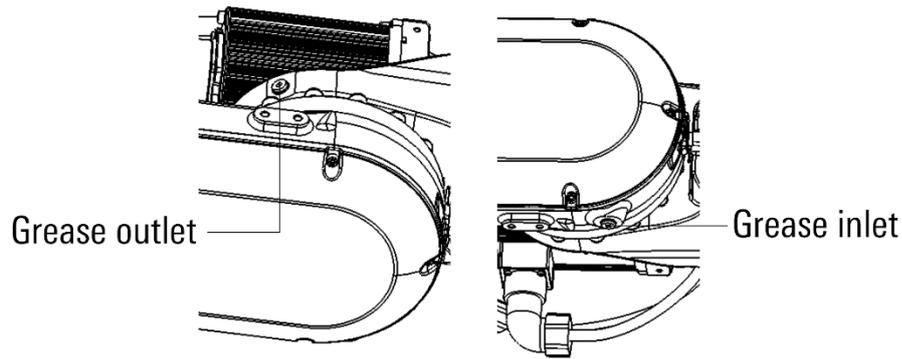

Figure 12-12 Replace the J5 axis reducer lubricating grease
- Step4. Remove the M10x1 plug from the grease outlet, as shown in Figure 12-12.
- Step5. Remove the four M8 screws from the motor base, as shown in Figure 12-12.